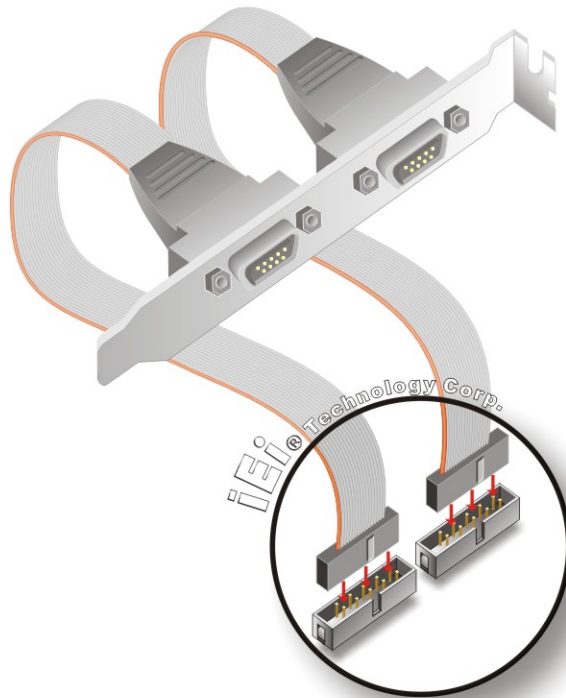

Figure 5-10: Dual RS-232 Cable Installation
Step 2: Insert the cable connectors. Insert one connector into each serial port box headers. See **Figure 5-10**. A key on the front of the cable connectors ensures the connector can only be installed in one direction.